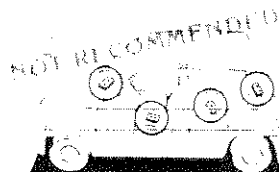

Fig. 2
- Storing cassettes in areas directly exposed to sunlight or high temperatures can distort them and subsequently interfere with tape transport. (Fig. 2)